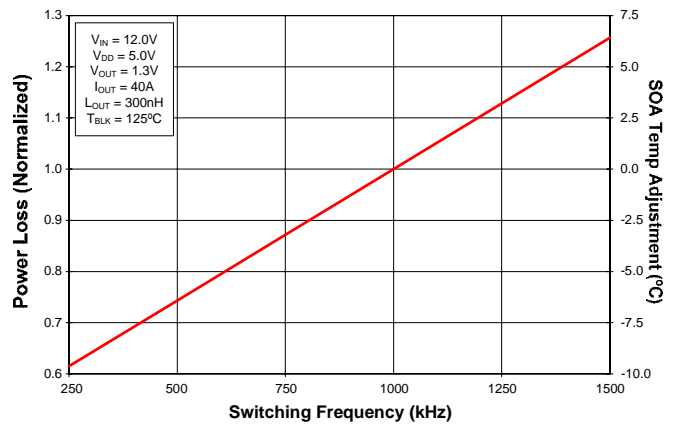

Figure 6 Normalized Power Loss vs. Switching Frequency
| (Figure 6) | Normalized power loss for switch frequency $\approx$ 0.87 |
- (Figure 6) SOA temperature adjustment for switch frequency  $\approx -3.5^{\circ}\text{C}$